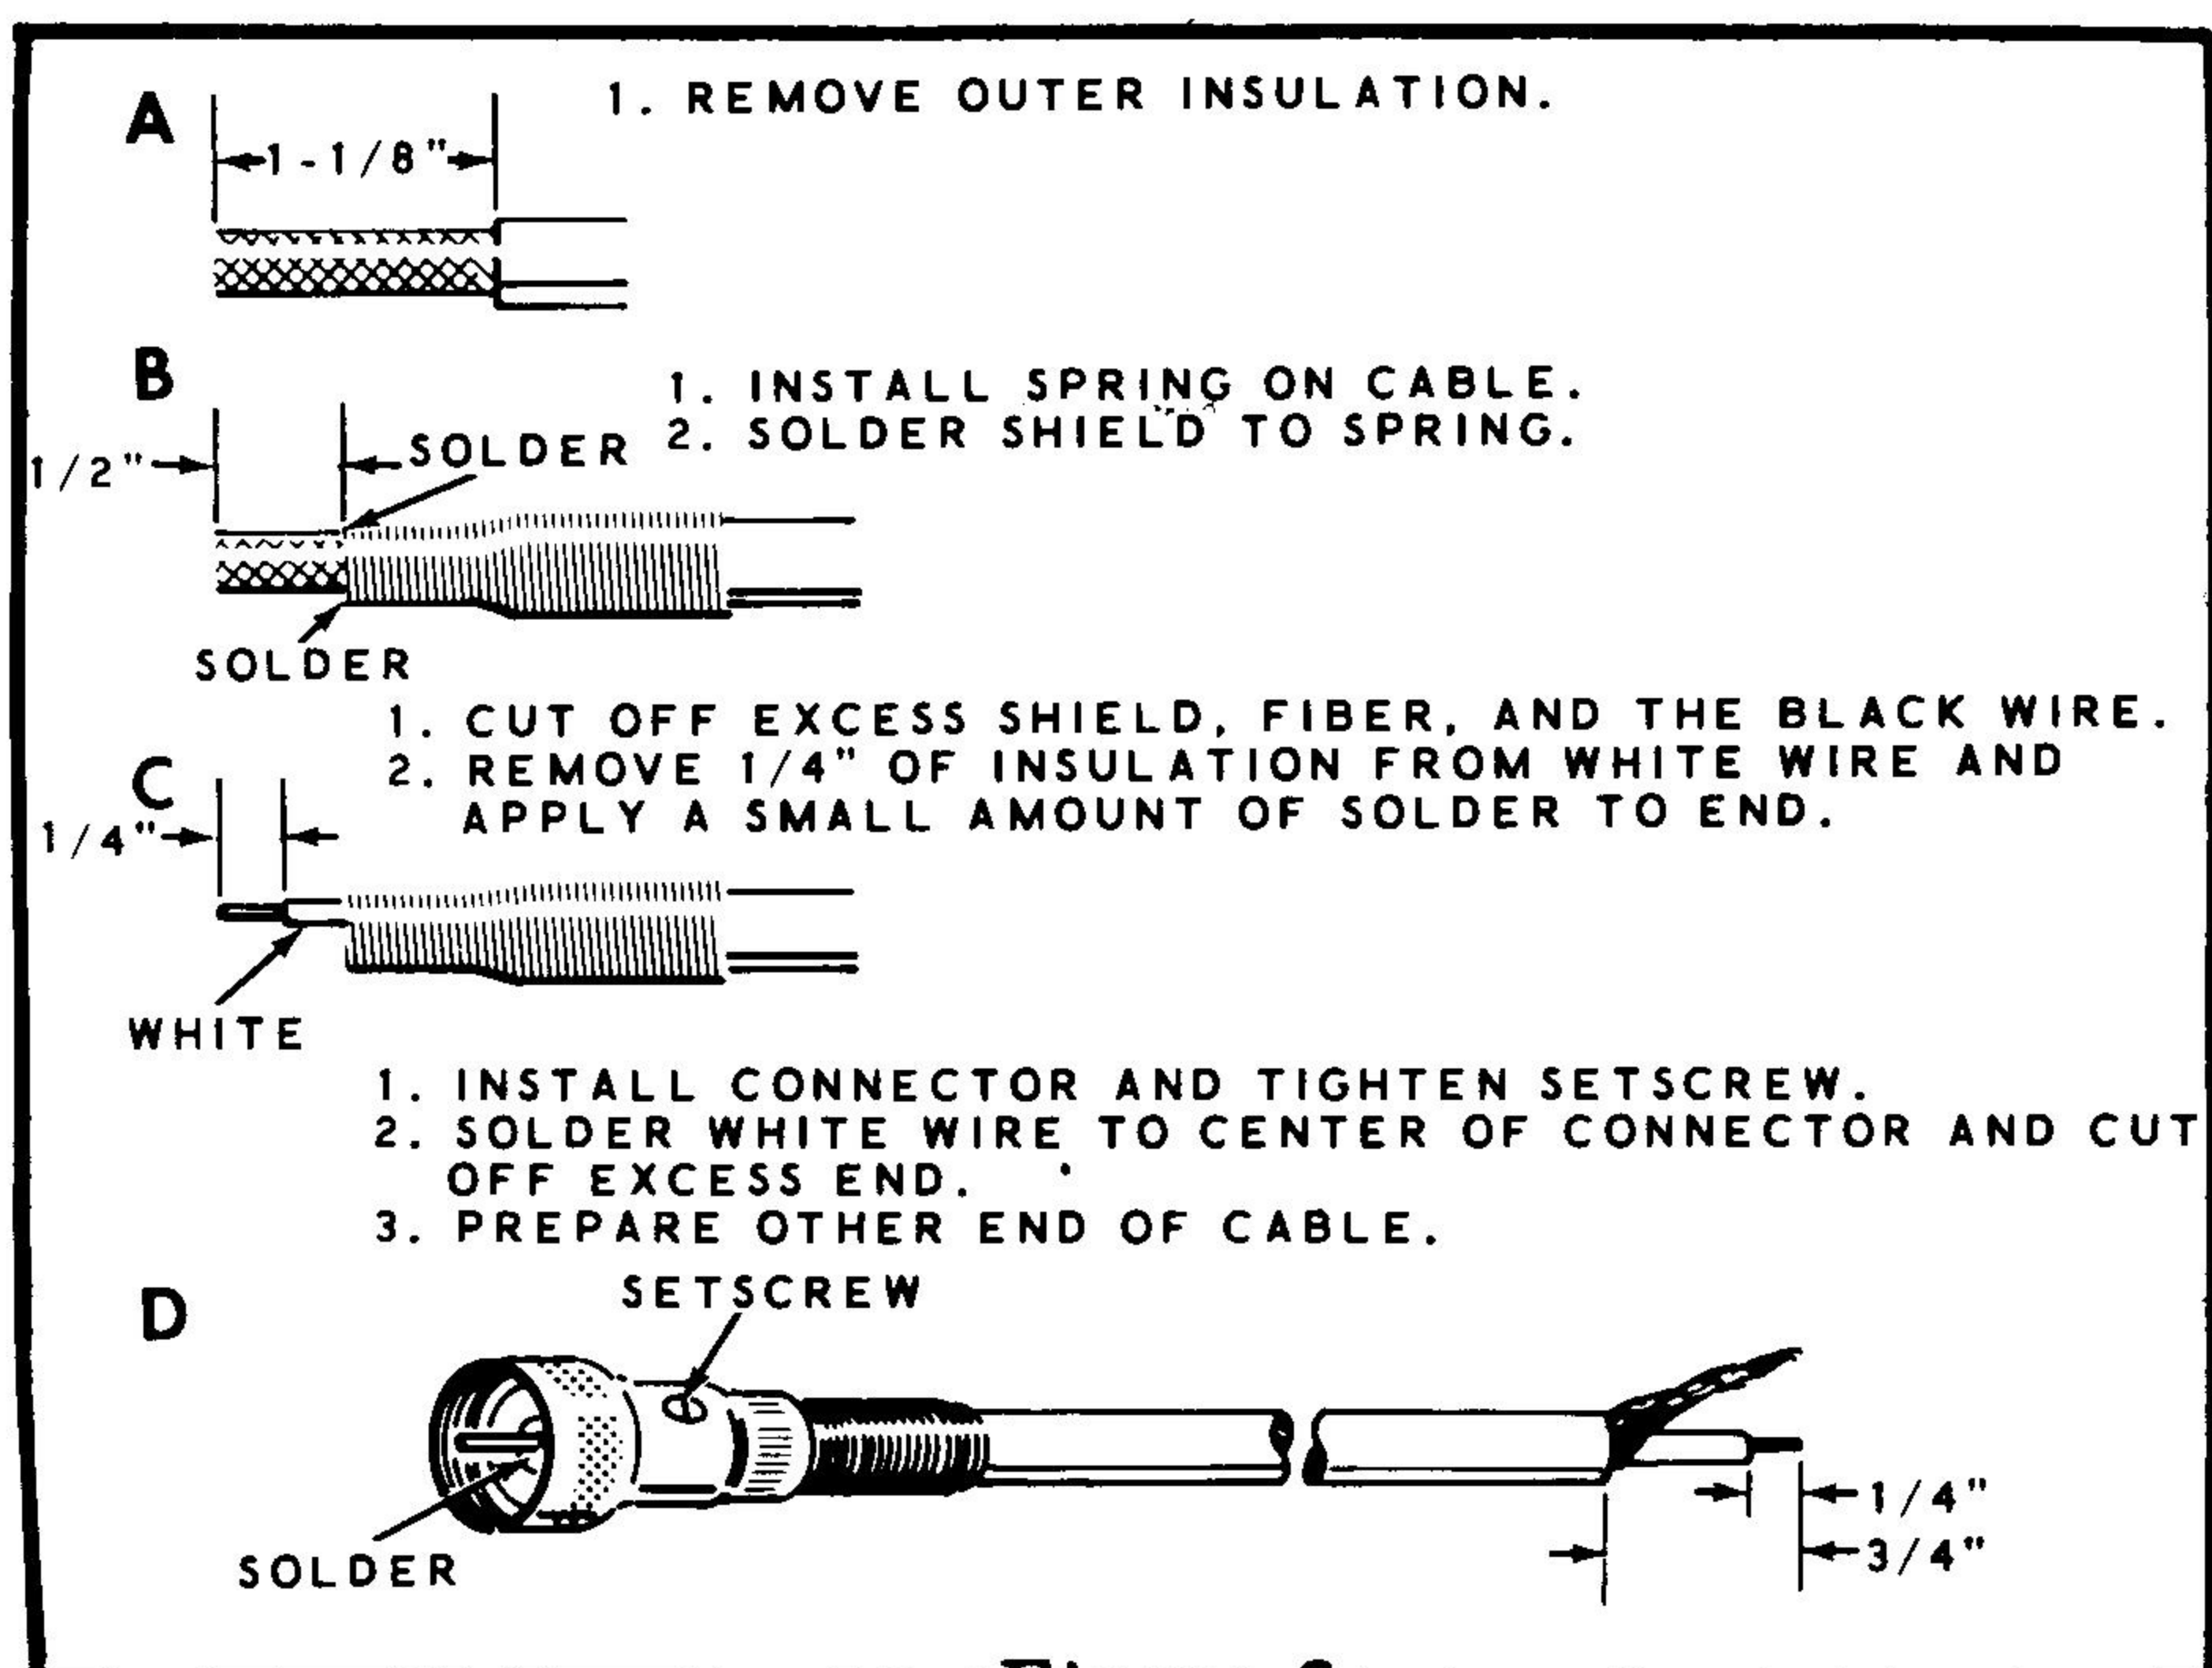

Figure 2
- ( ) Locate the short length of shielded cable. Then prepare both ends and install the microphone connector. Refer to Figure 2.